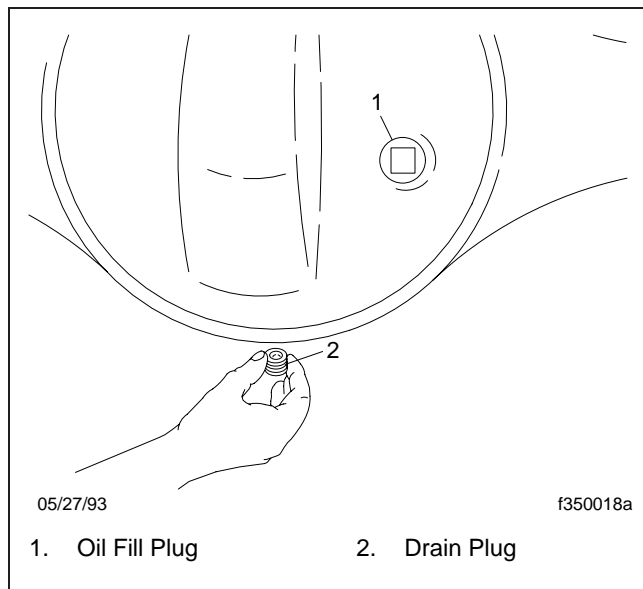

Fig. 1, Axle Housing Drain and Fill Plugs
2. Clean the fill plug and the area surrounding the fill plug on the side of the axle carrier. See Fig. 1. Remove the plug.